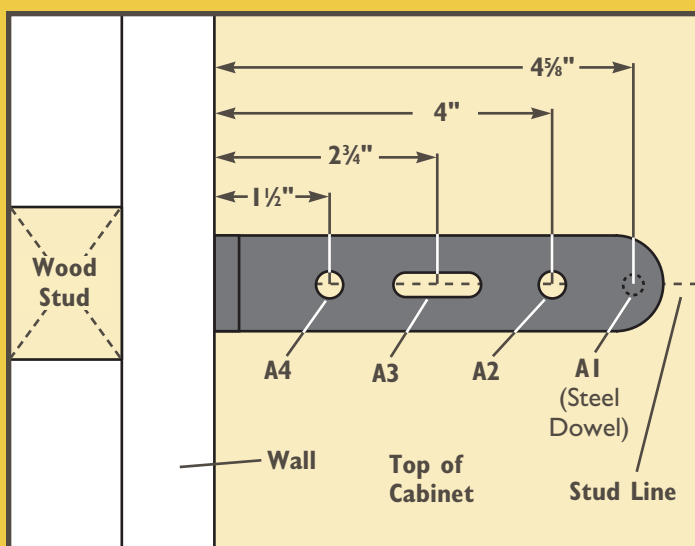

Fig. 6 - Top View
5. Drill a 5/16" diameter hole through the bed cabinet Top (2) at Drilling Location A2 on each centerline. **Fig. 6.**
6. At Drilling Locations A3 and A4 on each stud centerline, drill a 5/32" diameter x 5/8" deep pilot hole, taking care not to drill all the way through the cabinet Top (2). **Fig. 6.**